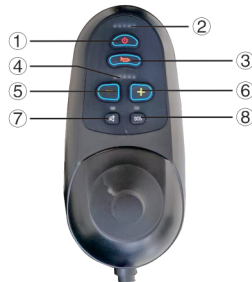

Figure 5
(8) Press the "power on button" to turn on the power of the controller, and at the same time the "battery power indicator light" and "speed grade display" lights are lit. The "battery power display" light is on to indicate that the wheelchair is powered on, the more the light is on, the more sufficient the power is; the "speed gear display" light has 5 levels, all on indicate the highest speed, the less on, the lower the speed limit (see Figure 5).